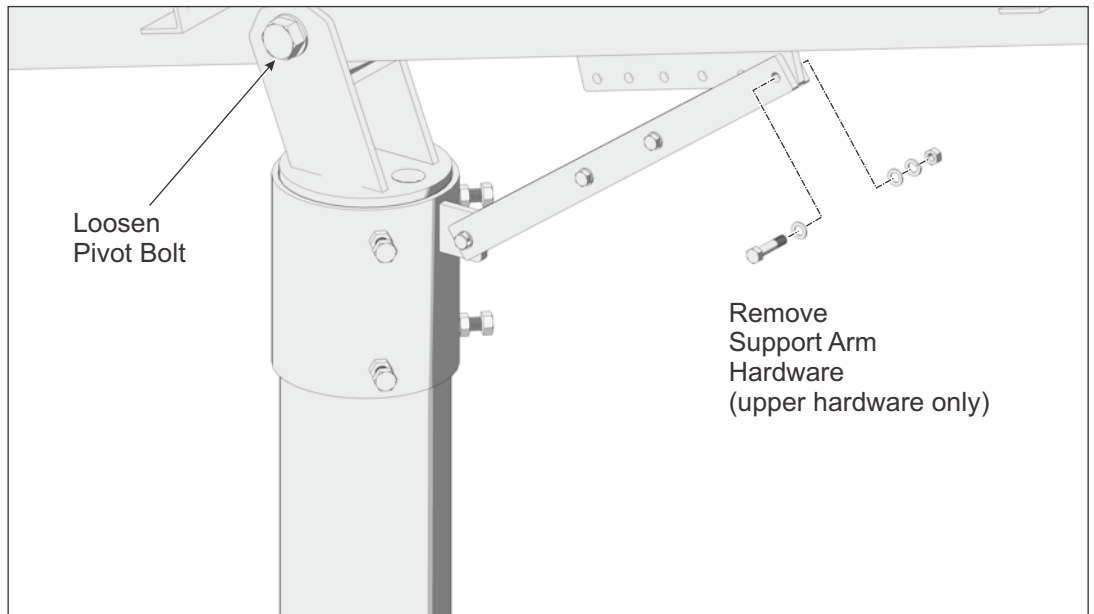

Figure 7-1: Preparing to Adjust the Tilt Angle
- A. While one person holds the south edge of rack, the other loosens the Pivot Bolt and removes the upper 1/2" hardware attaching the Support Bar to the Strongback.(See Figure 7-1)